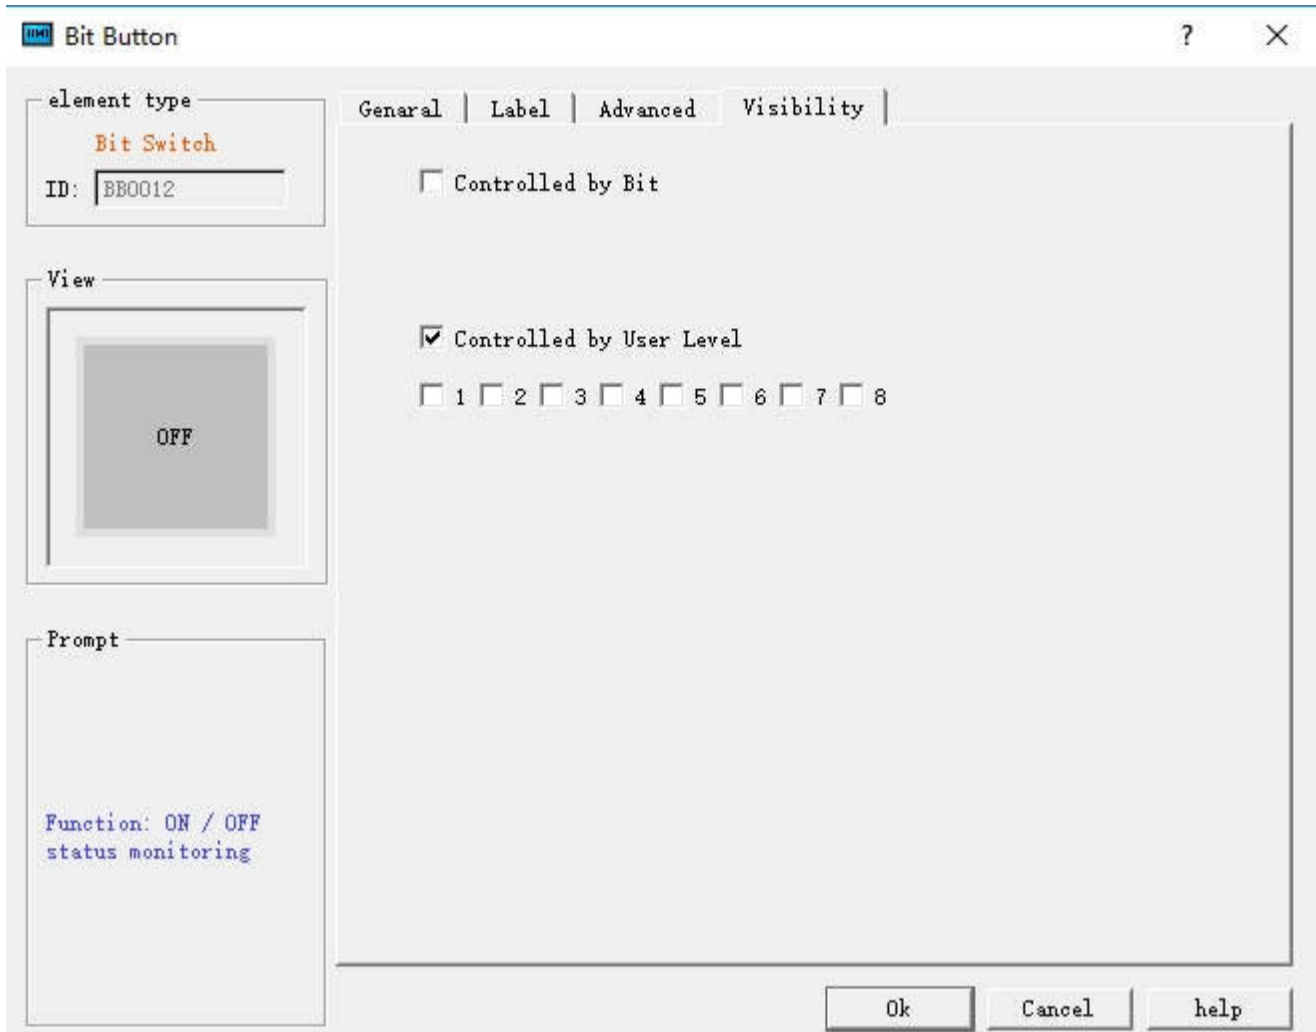

Figure 4-71 Bit Button Visibility page
- ◆ Write Address: Click the Keyboard button icon after "Write Address" to enter the address. HMITOOL software will distribute corresponding address symbols according to different connected devices. For example, in FX-2N series of MITSUBISHI (Mitsubishi) PLC, X represents the address of input coil; Y represents that of the output coil; M that of the intermediate relay; C that of the counter (switch status display); T that of the timer (switch Status display); D that of the data register; C * that of the counter (count value); T * represents that of the timer (count value). Another example is the series of SIEMENS (Siemens) S7-200: I represents the input address; Q on behalf of the output address; M on behalf of the intermediate relay address; V on behalf of the data register address. As shown in Figure 4-71:
Select the "Show" page to display the "Show" property, which is used to set whether the control is displayed or hidden. As shown in Figure 4-71